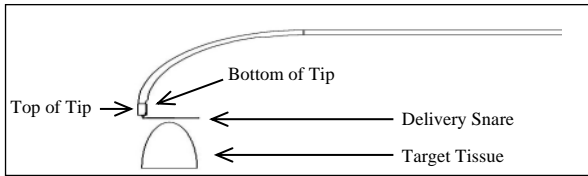

Figure 4A LARIAT + Orientation
- Ensure the open Delivery Snare is at the desired target for ligation. The Delivery Snare represents the position where the Suture will be placed. Orientate the LARIAT RS curve to the target tissue as shown in Figure 4A.